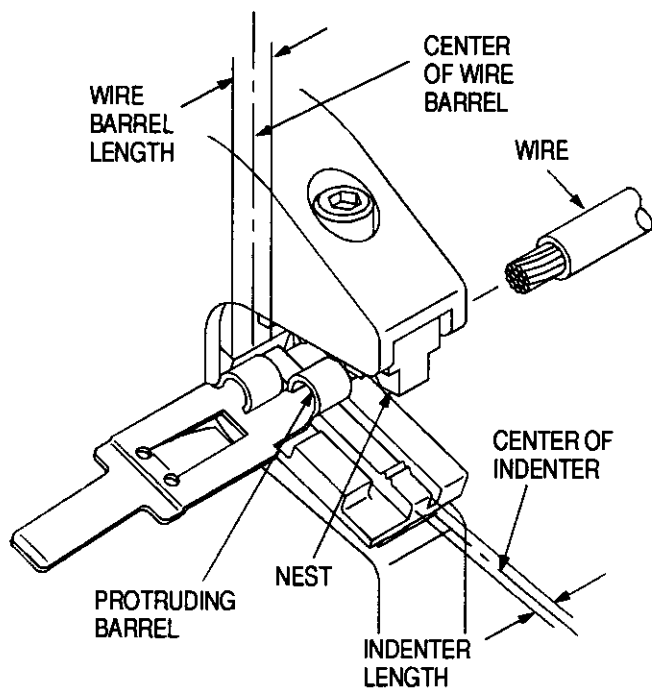

Figure 4
3. The protruding barrel is crimped first on both terminals. Place protruding wire barrel in upper die crimp section; refer to Figure 4.